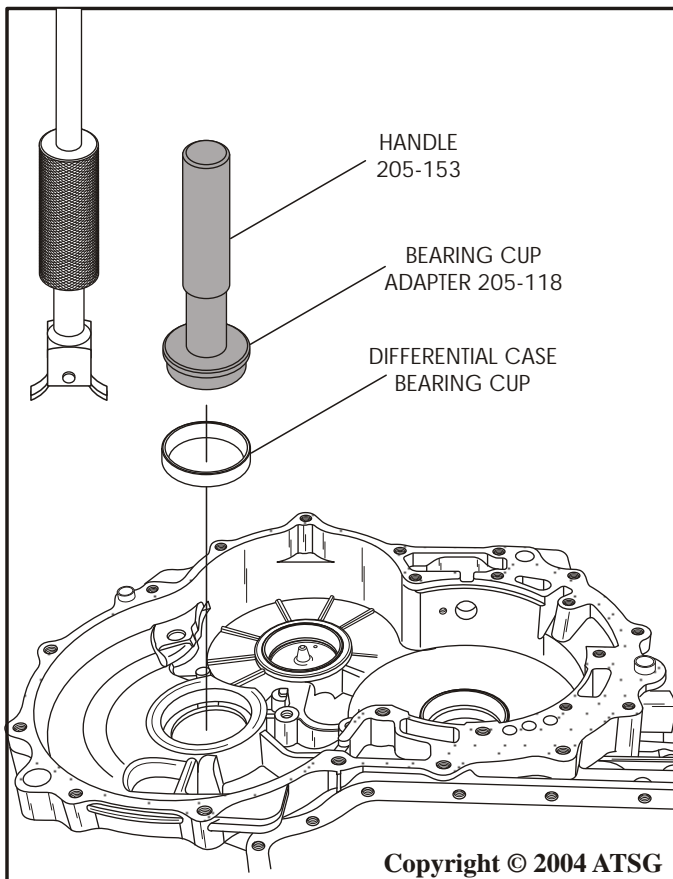

Figure 120
23. Install new differential case bearing cup into case using proper driver (See Figure 120).